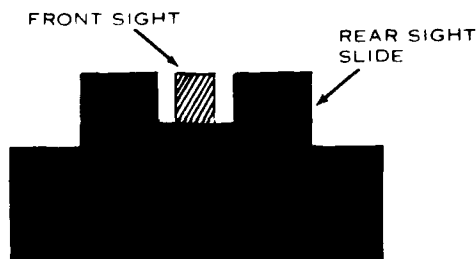

Figure 5-31.—Sight alignment.
**SIGHT ALIGNMENT.**—To correctly align the sights of the M60 machine gun, center the front sight blade vertically in the aperture of the rear sight slide. The top of the front sight blade should be even with the top of the rear sight slide (fig. 5-31).